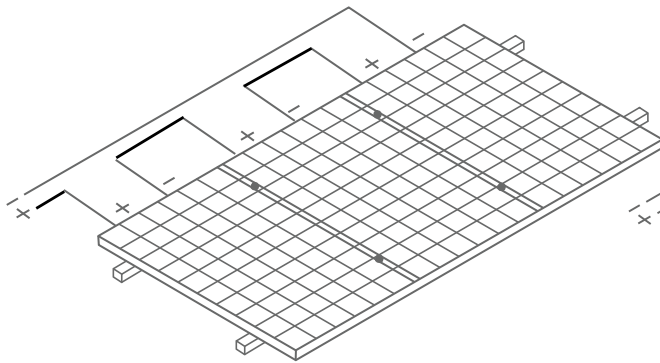

Figure 4 Connection in Series
- It is not allowed to use the Modules in different models in the same solar photovoltaic system. When the Modules are connected in series, the voltage of every string shall not be higher than the maximum voltage of the system (as shown in Figure 4). Reference equation of the maximum number of the Modules in serial connection:  $\text{maximum system voltage of the module} / (1.3 * \text{open-circuit voltage})$ .